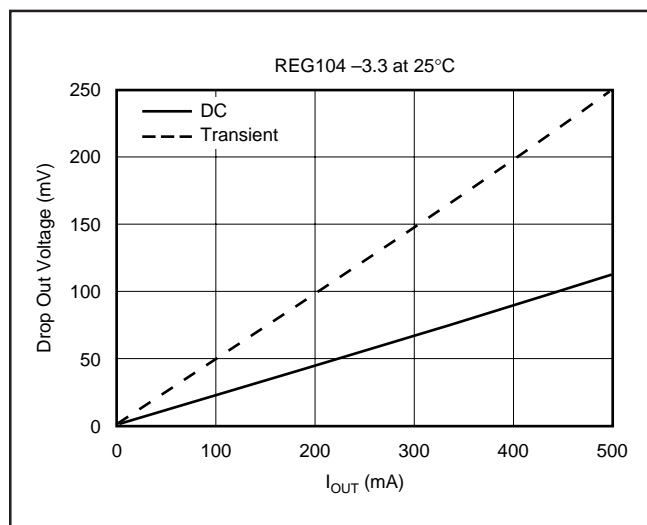

FIGURE 8. Transient and DC Dropout.
The REG104 uses an N-channel DMOS as the *pass* element. When the input voltage is within a few hundred millivolts of the output voltage, the DMOS device behaves like a resistor. Therefore, for low values of  $V_{IN}$  to  $V_{OUT}$ , the regulator's input-to-output resistance is the  $R_{DS(ON)}$  of the DMOS pass element (typically 230mΩ). For static (DC) loads, the REG104 will typically maintain regulation down to  $V_{IN}$  to  $V_{OUT}$  voltage drop of 230mV at full rated output current. In Figure 8, the bottom line (DC dropout) shows the minimum  $V_{IN}$  to  $V_{OUT}$  voltage drop required to prevent dropout under DC load conditions.
For large step changes in load current, the REG104 requires a larger voltage drop across it to avoid degraded transient response. The boundary of this *transient dropout* region is shown as the top line in Figure 8. Values of  $V_{IN}$  to  $V_{OUT}$  voltage drop above this line insure normal transient response.